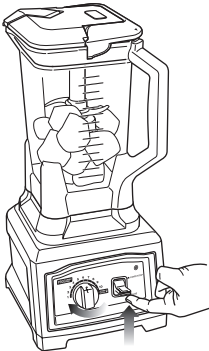

Fig. 6
- 8 Turn the Variable Speed Dial to speed 1. (Fig. 6) The power indicator light (ⓘ) will now turn on.